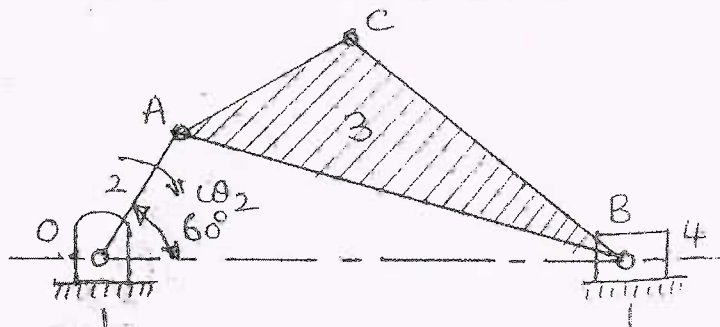

Fig. Q3
- 3 In the mechanism shown in Fig. Q3. The crank 2 rotates at 3000 rpm. Find the acceleration of point C in magnitude and direction. Also find the angular acceleration of link 3. (20 Marks)